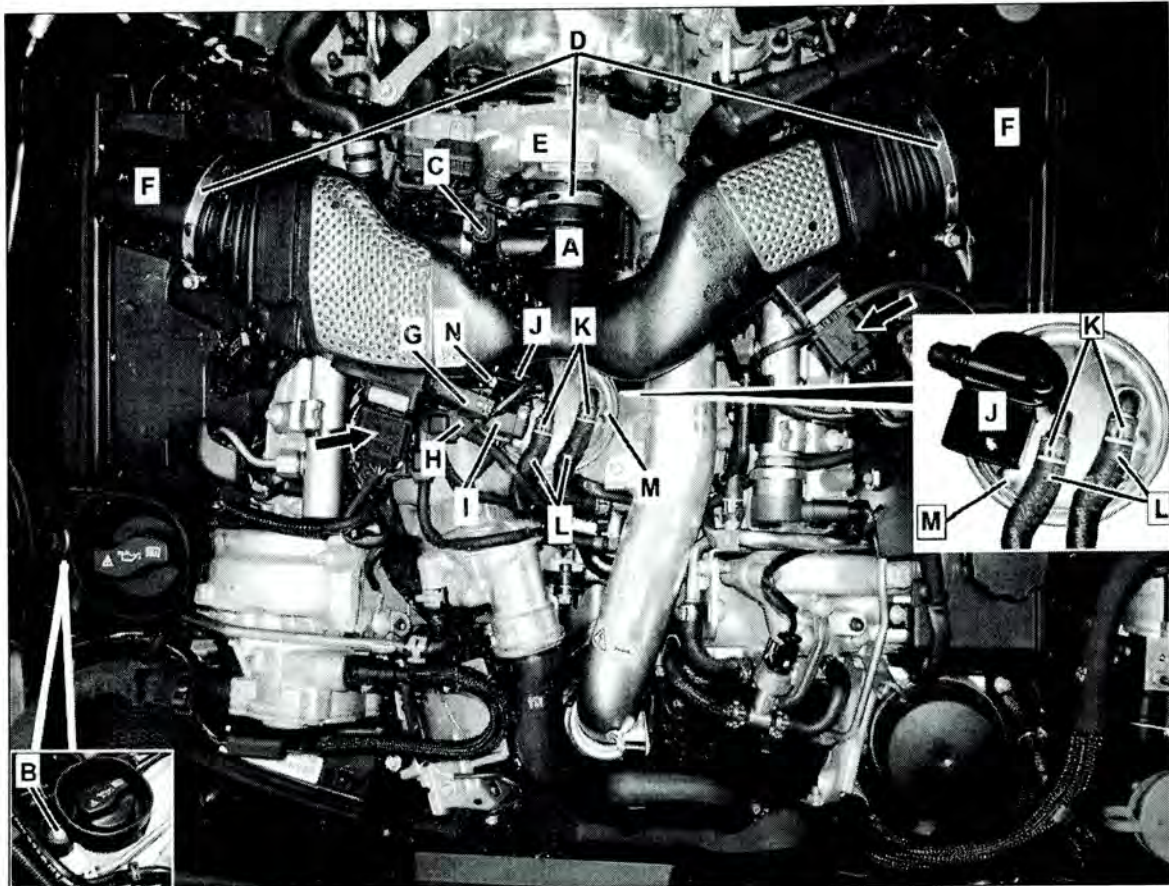

Figure 2 (Overhead view)
2. Remove engine air intake duct (A, Figure 2) by loosening clamps (D).
- Remove bolt (B, Figure 2) securing right air filter housing to engine.
- Disconnect harness connectors (arrows, Figure 2) from mass air flow sensors and vent line heater (C).
- Loosen intake duct clamps (D, Figure 2).
- Partially remove intake air duct (A, Figure 2) from turbocharger (E), remove air intake duct hoses from air filter housings (F) then remove air intake duct (A) from engine.
3. Disconnect engine harness connector (G, Figure 2) from mounting bracket (H) and move aside.
4. Disconnect engine harness connector (I, Figure 2 [to fuel filter]) from water level sensor (J).
5. Unfasten CLICK clamps (K, Figure 2) from fuel lines (L) then disconnect fuel lines (L) from fuel filter (M).
6. Loosen fuel filter bracket screw (N, Figure 2) then remove fuel filter.
- Do **not** crush the sealing ring between the turbocharger (E, Figure 2 [refer to DTB S-B-09.20/29]) and the engine intake air duct (A).
- Connect fuel lines (L) to filter fuel (M) before tightening fuel filter bracket screw (to allow proper positioning of fuel lines).
- Replace fuel line CLICK clamps (K), do **not** reuse old clamps.
- Use only proper CLICK clamp pliers (refer to page 5) to fasten click clamps (K) to fuel lines (L) or clamps (K) may be damaged when fastening.